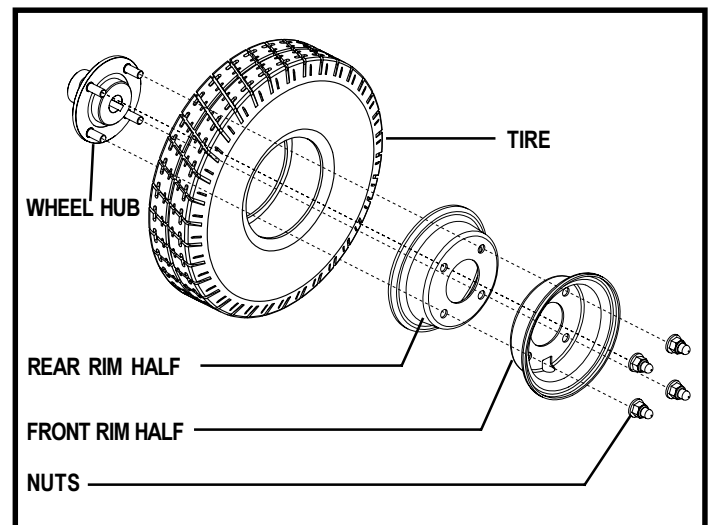

Figure 21. Jet Z11 Drive Wheel
6. Remove the nuts that fasten the two rim halves together. See figure 21.